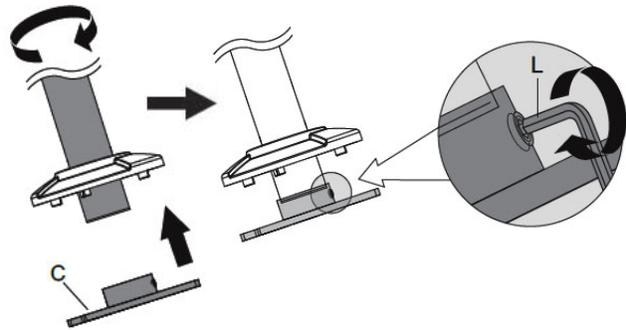

Figure 5
3. Connect the Steel Tube into the Grommet Plate (C) and turn it clockwise until tight. Use the 3mm Allen Key (L) to tighten the Hex Nut to secure the Steel Tube, see Figure 5.